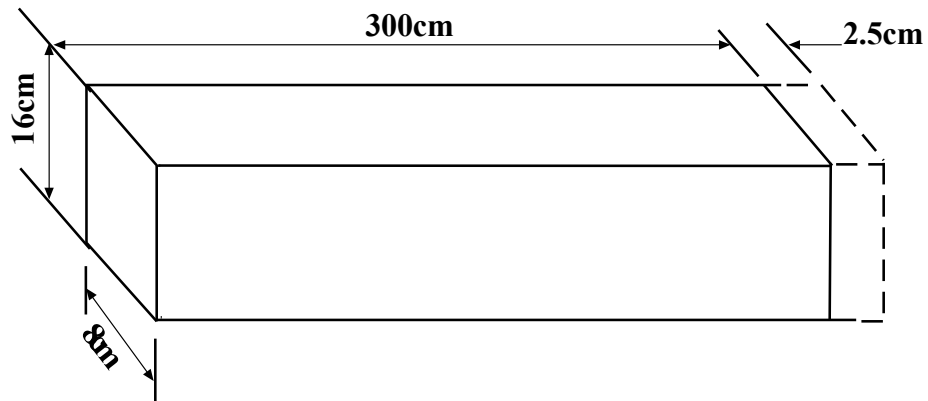

Fig. 2
- (b) Consider a tie bar of **300 cm** long, **8 cm** wide and **16 cm** high as shown in **Fig. 2**. It is subjected to a pulling force of **4 000 kN**. As a result a Change in length of material is **2,5 cm**.